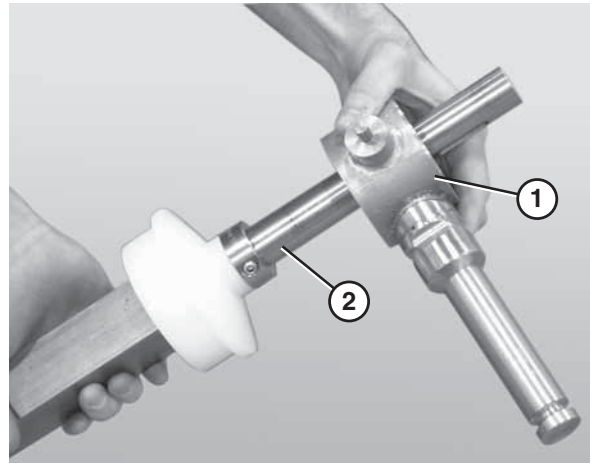

Figure 84
5. Slide the second bearing shaft assembly, or the motor mount bracket (**Figure 84, item 1**), onto the longer end of the drive spindle (**Figure 84, item 2**).